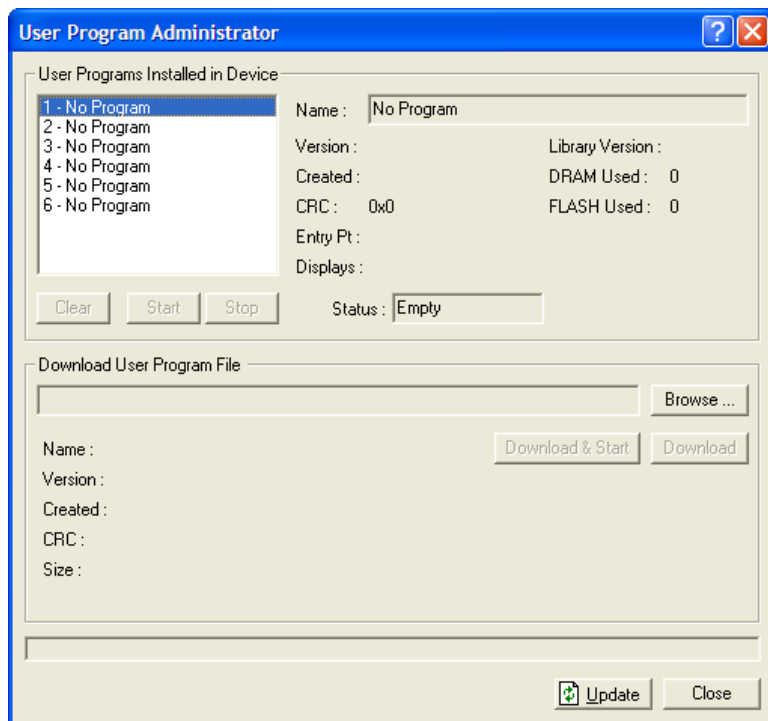

Figure 4. User Program Administrator
3. Select **Utilities > User Program Administrator** from the ROCLINK menu bar. The User Program Administrator screen displays (see *Figure 4*):